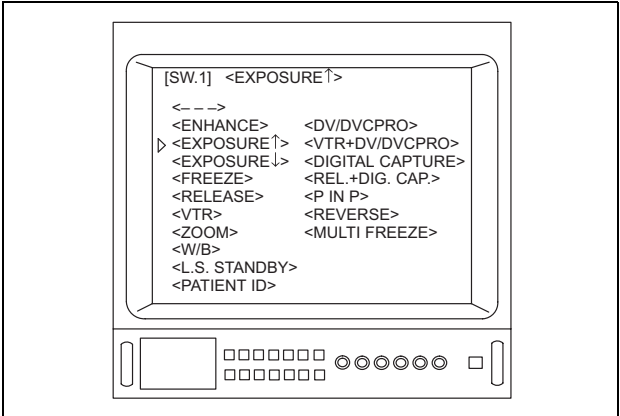

Figure 5.60
6. Depress the menu switches “◀” or “▶”, or the “↑/↓/←/→” key on the keyboard to move the arrow “▷” to the next function that you would like to set (for example, “EXPOSURE ↑”) (see Figure 5.60).
Depending upon the installed B.O.D.s in the OTV-S7V, the menu shown in Figure 5.60 may appear different from that displayed on the video monitor.